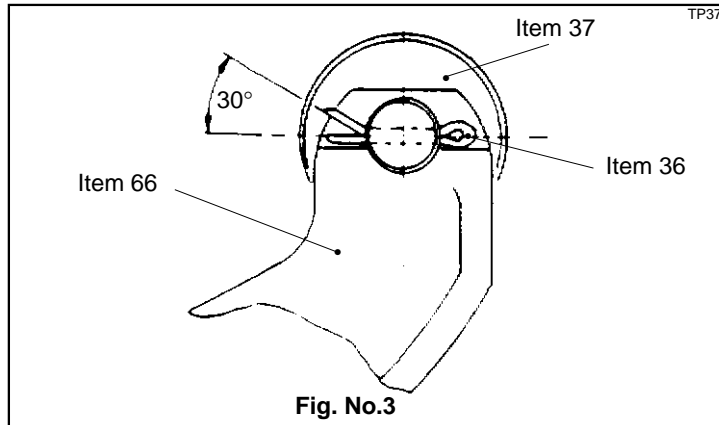

Fig. No.3
9.4 Smear bore of one of brake shoe rollers (37) also roll pin holes in brake shoes (66) with grease (BP Energrease AS11 or equivalent). Locate roller (37) in position, fit brake shoe roller pin (41) so that headed portion will be towards brake bracket (29) when fitted. Secure in place with brake shoe roller pin split pin (36). Splay pin (36) to approx 30° as shown in fig no. 3. to avoid fracture of leg.